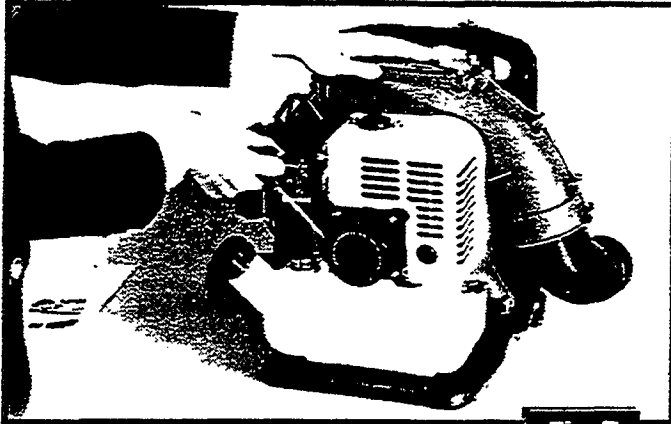

Fig. 7
5. Give the starter a rapid and vigorous pull until the engine fires. (Fig. 7)